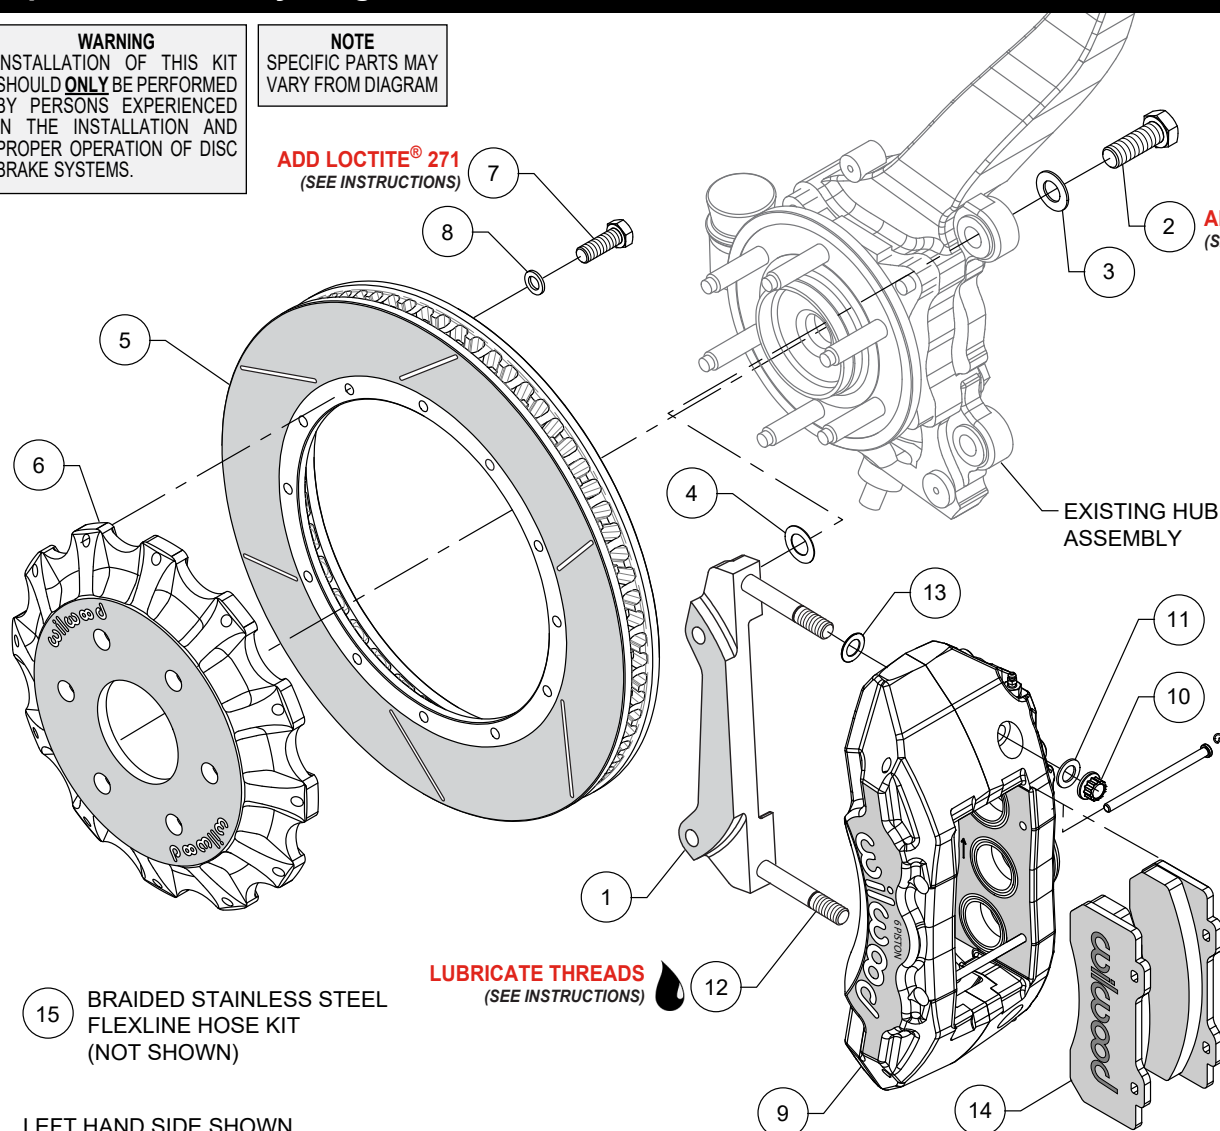
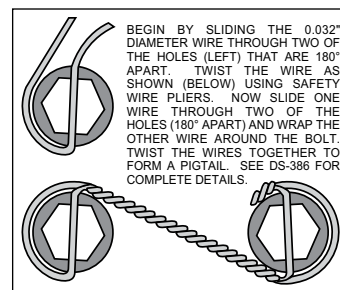

Figure 1. Typical Installation Configuration
Figure 3. Safety Wire Diagram
NOTE: Numbers in parenthesis refer to the parts list and Figure 1 on the preceding pages.
- The caliper mount bracket (1) should initially be installed with clean, dry threads on the mounting bolts. Orient the bracket as shown in Figure 1 and Photo 1, and install using bolts (2) and washers (3). Initially place one .024 thick shim (4) on each bolt between the bracket and upright, Figure 1. Temporarily tighten the mounting bolts. **NOTE:** The bracket must fit squarely against the mount bosses on the upright. Inspect for interference from casting irregularities, machining ridges, burrs, etc. Later, after the caliper alignment has been checked, the mount bolts will be secured using red *Loctite*® 271.
- Orient the rotor (5) and the hat (6) as shown in Figure 1 and Photo 2. Attach rotor to hat using bolts (7) and washers (8). Apply red *Loctite*® 271 to the bolt threads and torque to 25 ft-lb using a criss-cross pattern. For an added measure of security, the bolts may be safety wired using standard 0.032 inch diameter stainless steel safety wire as shown in Figure 3. Refer to Wilwood's data sheet DS-386 (available at www.wilwood.com/Pdf/DataSheets/ds386.pdf) for complete safety wire installation instructions.
- NOTE:** This kit contains distinct right and left hand calipers that must be mounted in a specific direction, as described below. Lubricate the caliper mounting studs (12) with lightweight oil. Initially place one .032" thick shim (13) on each stud as shown in Figure 1 and Photo 3. Mount the caliper (9) onto the bracket (1) using lock nuts (10) and washers (11), Figure 1. Ensure that the caliper is mounted so that the largest pistons are at the rotor exit end of the caliper, in relation to the direction of rotor rotation. Temporarily tighten the lock nuts and view the rotor through the top opening of the caliper. The rotor should be centered in the caliper, Photo 4. If not, adjust by adding or subtracting shims (4) between the bracket and the upright. Always use the same amount of shims on each of the two mounting bolts. Once the caliper alignment is correct, remove the bracket mounting bolts (2) one at a time, apply red *Loctite*® 271 to the threads, and torque to 120 ft-lb.